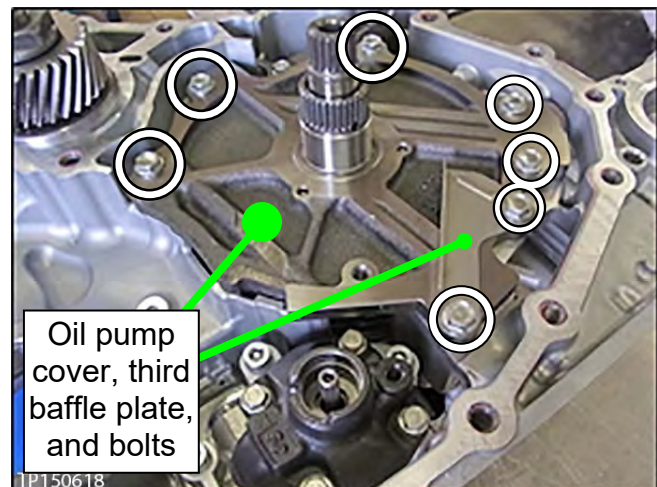

Figure 72
8. Install the oil pump cover and third baffle plate with related bolts finger tight (see Figure 72).